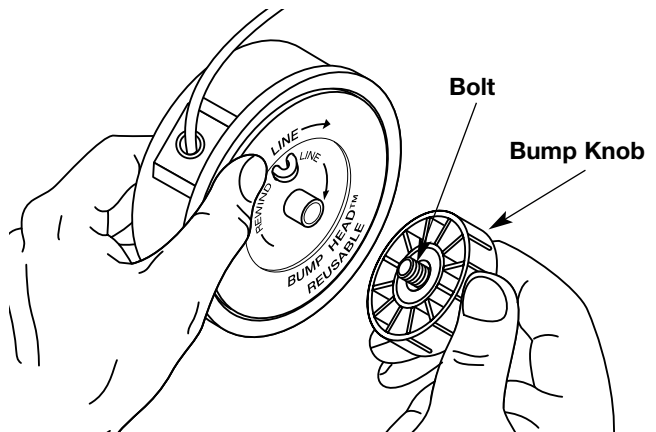

Figure 18
- Hold the outer spool with one hand and unscrew the Bump Knob counterclockwise. Inspect the bolt inside the Bump Knob to make sure it moves freely. Replace the Bump Knob if damaged. See Figure 18.
1. Hold the outer spool with one hand and unscrew the Bump Knob counterclockwise. Inspect the bolt inside the Bump Knob to make sure it moves freely. Replace the Bump Knob if damaged. See Figure 18.